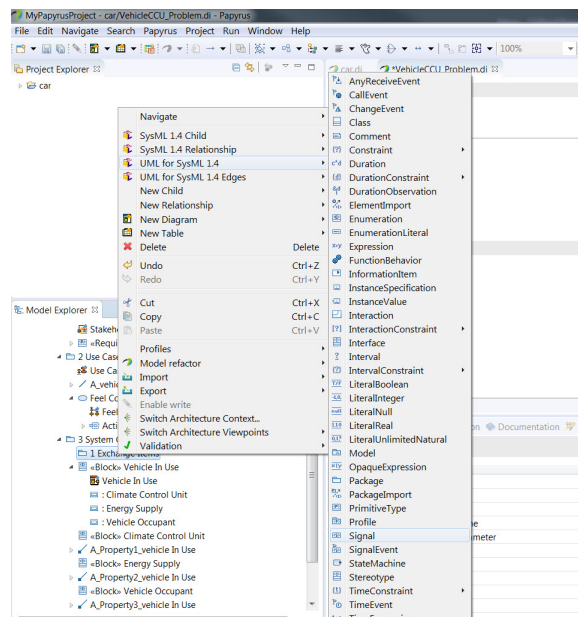
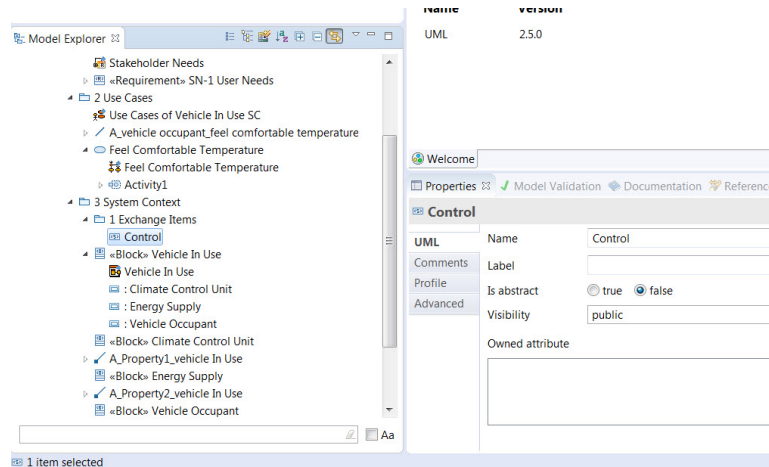

Figure 61: Create New Signal
Figure 62: *Control* Signal Created
- Now we will create a new signal. Right Click on the *1 Exchange Items* package that you just created and select **UML for SysML 1.4** and then **Signal** (figure 61). Type **Control** for the name and your *Model Explorer* window should look like (figure 62).